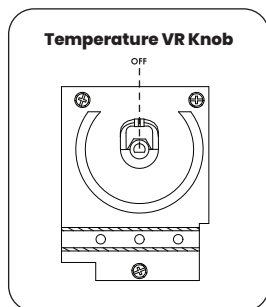

Fig. 6
1. Turn the Temperature VR Knob to “OFF” position at the heater base (Fig. 6).